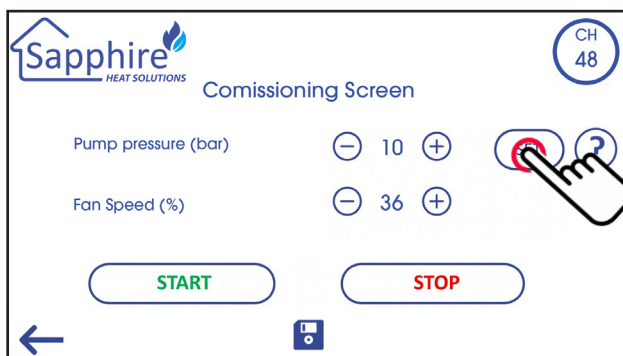

Fig. 22
- Once acceptable combustion settings have been achieved, It is **VERY IMPORTANT** to Press the "Set" button to **SAVE** the setting. **Fig. 22**